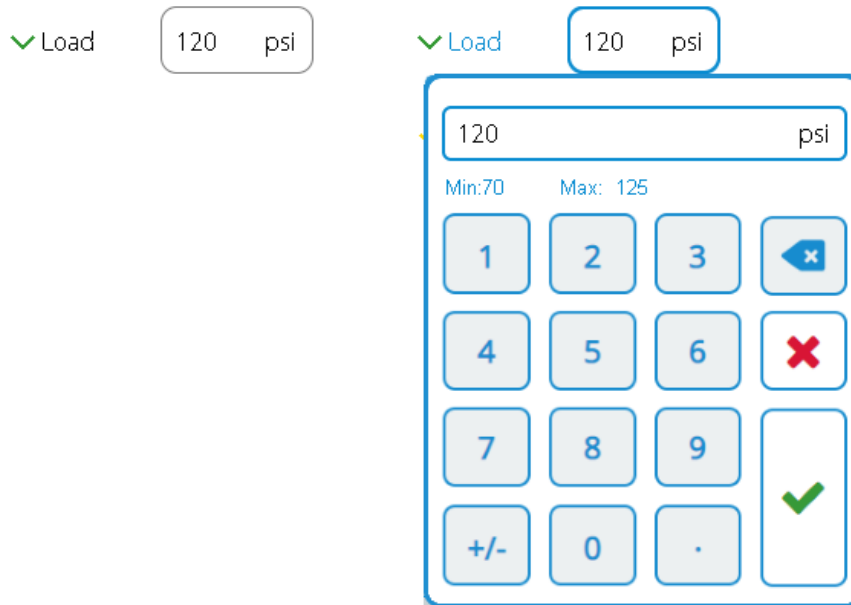

Figure 41: Number Keypad
Value boxes display a numerical or text value. Pressing on the box will bring up a number or text entry keypad. An example of a numerical value setting and keypad is shown below in Figure 41.
- For inputs that have a maximum and minimum valid range, the keypad will display the valid input range as shown in Figure 41.